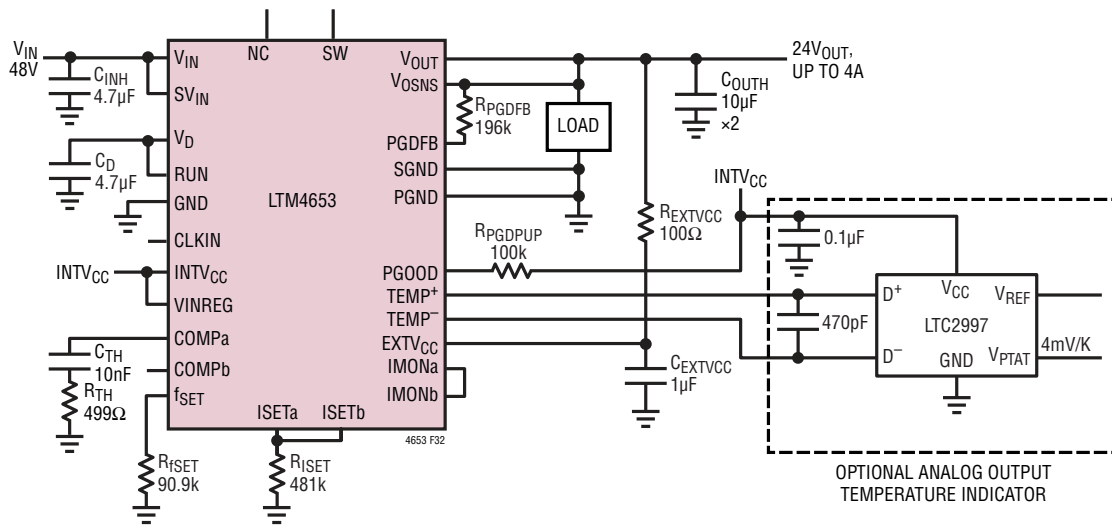

Figure 32. 4A, 24V Output DC/DC  $\mu$ Module Regulator
**Table 7. LTM4653 Output Voltage Response vs Component Matrix. Performance of Figure 32 Circuit with Values Here Indicated. Load-Stepping from 2A to 4A Load Current, at 2A/μs. Typical Measured Values**